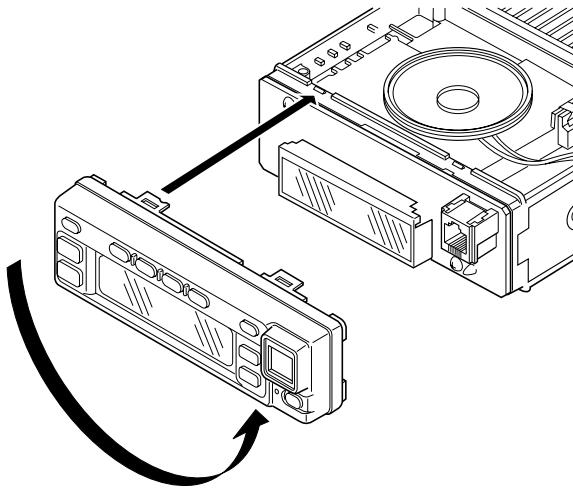

Fig. 17
6. Rotate the control panel 180 degrees and mount it on the transceiver. Refit the two halves of the case to complete installation. (Fig. 17)